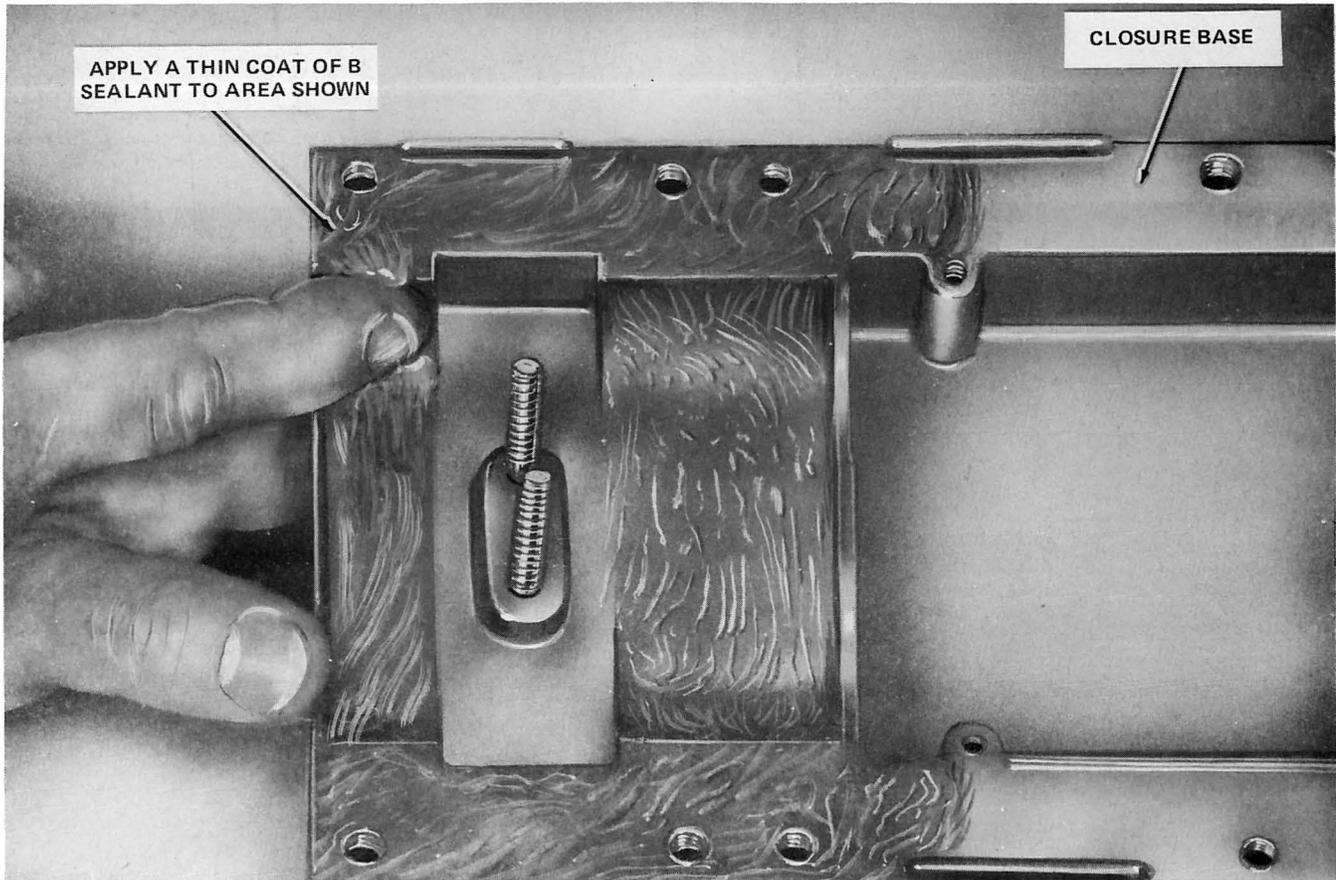

Fig. 37—Applying B Sealant to Both Ends of Closure Base
5.04 At each end of the closure base, apply B sealant to the area shown in Fig. 37.